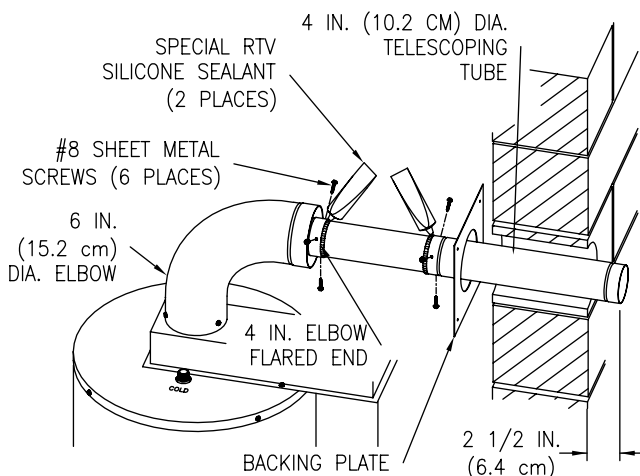

Figure 7
8. Extend the six (6) inch (15.2 cm) diameter telescoping tube to its maximum length. Place the large end of the six (6) inch (15.2 cm) diameter telescoping tube over the collar on the outer wall mounting plate. Drill three (3) 1/8 inch (3.2 mm) diameter holes, 120° apart, through the six (6) inch (15.2 cm) diameter telescoping tube into the collar on the outer wall mounting plate. Fasten with three (3) #8 sheet metal screws (supplied). Using the supplied special RTV silicone sealant, apply a sufficient amount to seal the joint (See Figure 7).